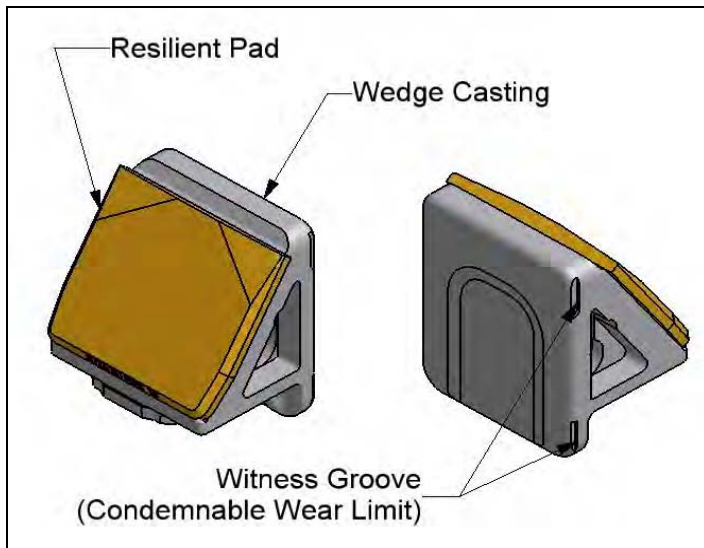

Figure 1
The RFE-16 assembly (Fig. 1) consists of an austempered ductile iron wedge and a resilient urethane pad affixed to the sloped face of the wedge. The two pieces lock together by means of a "waffle" arrangement at the interface and an interlocking post on the pad which is retained by a tapered hole on the sloped face of the wedge. Along each edge of the vertical (or wearing) face of the wedge are witness grooves to indicate the allowable wear limit. The sloped face of the iron wedge has two resilient pad wear indicators that will contact the bolster slope surface if the pad face wears to condemnable limit. The bottom of the wedge is made in two styles: one for a single side coil arrangement and one for a double side coil arrangement. The nomenclature "RFE-16 single coil" or "RFE-16 double coil" is indicated on the bottom of the wedge casting.
1. Check the wear limit indicators (Fig. 1). The wedge must be replaced when the wear limit indicators have been worn away and are no longer visible.